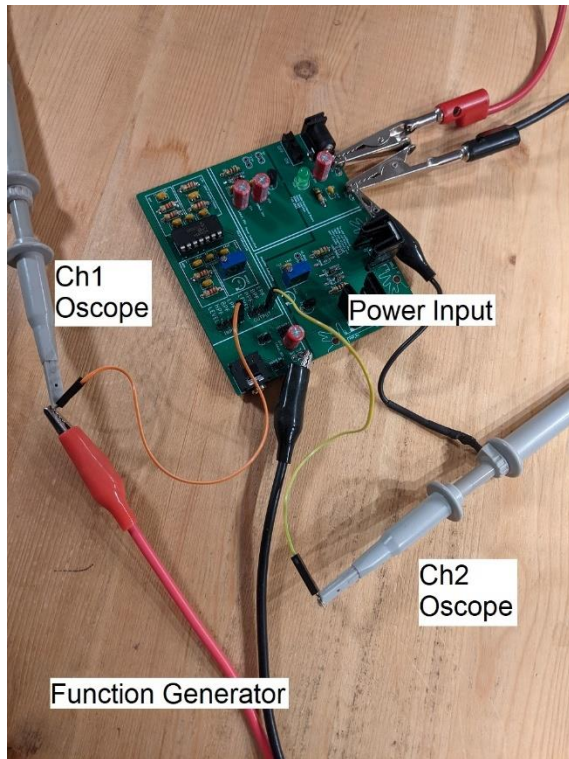

Figure 2: The setup to apply a signal to the LPF and measure the response on the oscilloscope.
- Verify that everything is setup correctly by comparing your setup to Figure 2,